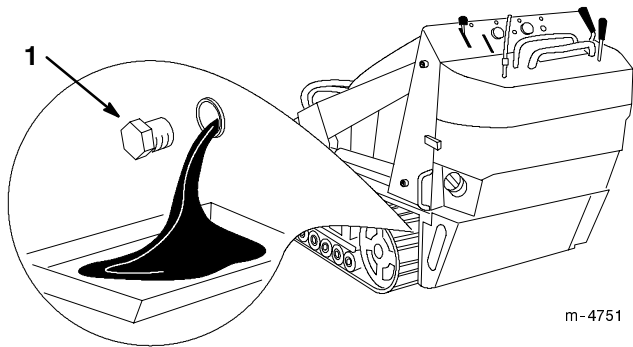

Figure 29
4. Remove the drain plug (Fig. 29).